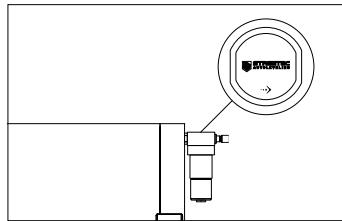

Fig. 7: Flow direction
1. Mount the water separator in the correct flow direction. The arrow on the water separator indicates the flow direction and must point from the tank to the valve block (Fig. 7). If you decide not to mount the filter directly on the tank, run the required hose from the tank to the water separator and the hose from the water separator with the appropriate fittings to the valve block.